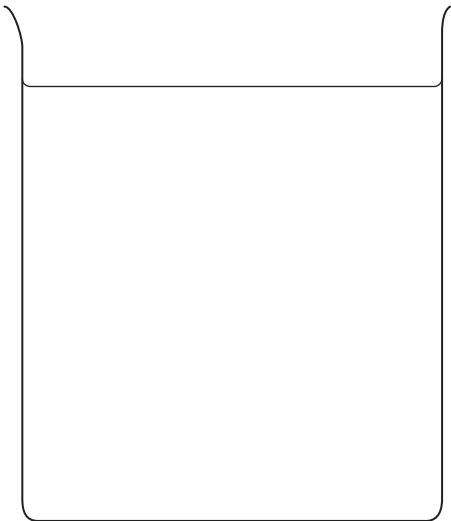

Figure 1.1
- 6 Fluids that are less dense float on top of more dense substances. In the measuring beaker in Figure 1.1, draw in the order in which the fluids would settle, labelling each one clearly.